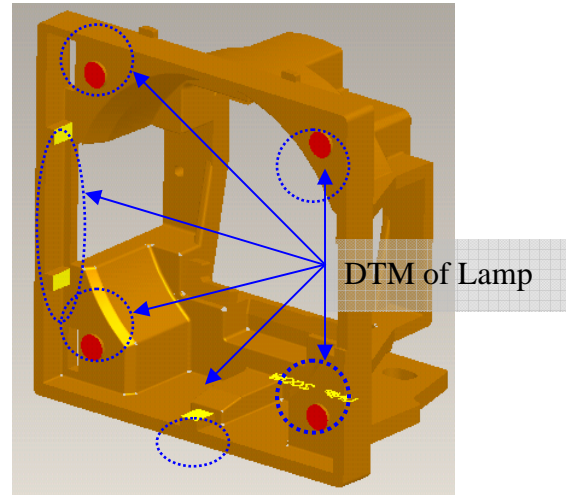

Fig. 1-12
- ii. To make sure that three datum contact with the lamp well(Fig. 1-12)